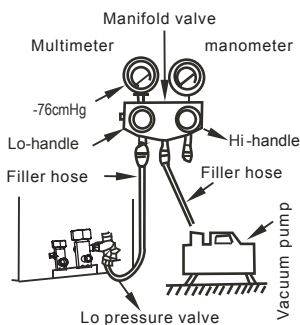

Fig. 6-4
- Use a vacuum pump to expel the air (Fig. 6-4): (For method of using the manifold valve, see the operation manual of manifold valve)